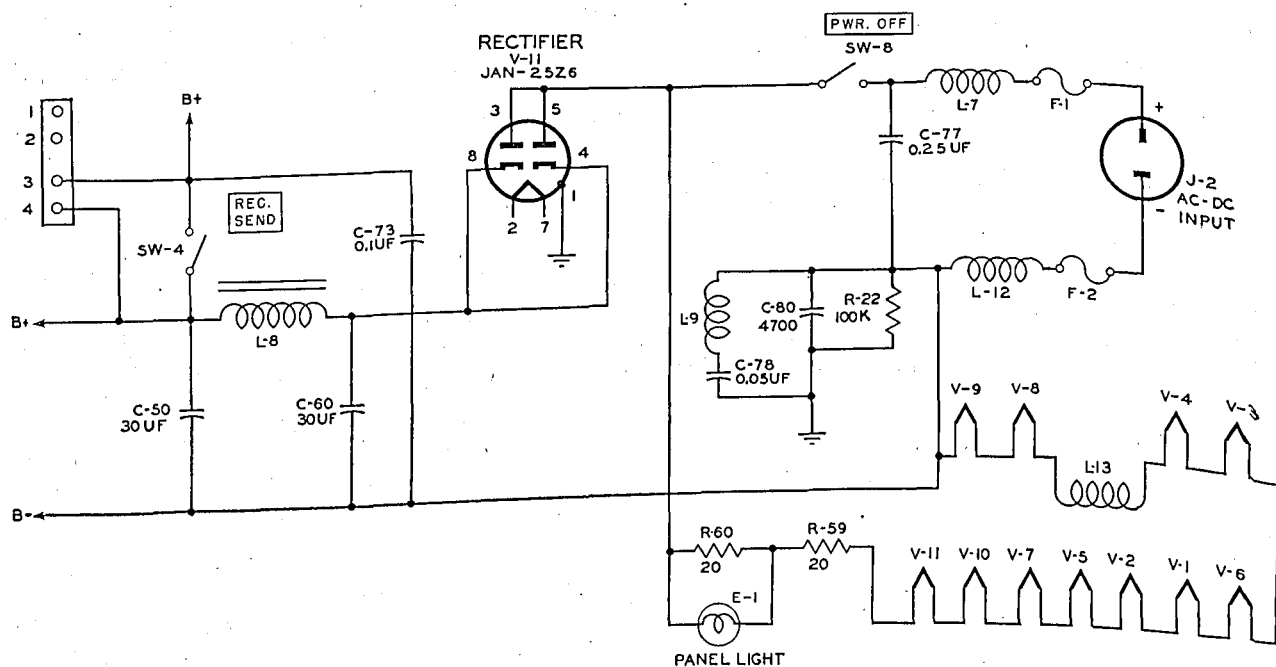

Figure 29. Power supply, schematic diagram.
58. Power Supply (fig. 29)
a. Figure 29 is a schematic diagram of the power supply and filament circuit. Power for Radio
a. STAND-BY OPERATION. REC.-SEND switch SW-4 is used to provide stand-by operation. Figures 29, 33, and 40 show the switch as it is connected in the B+ circuit. The SEND position of the switch disconnects the B+ voltage from the plate and screen grids of the first r-f amplifier (V-1), the second r-f amplifier (V-2), the mixer (V-3), the h-f oscillator (V-4), and the bfo (V-7) (when the bfo is used) stages. This effectively silences the receiver. While switch SW-4 is in the SEND position, the tube filaments are warmed up and the receiver is ready for instant operation. When switch SW-4 is placed in the REC. position, the receiver is set for normal operation. The SEND position of the REC.-SEND switch is used during a transmission or a waiting period of no reception.